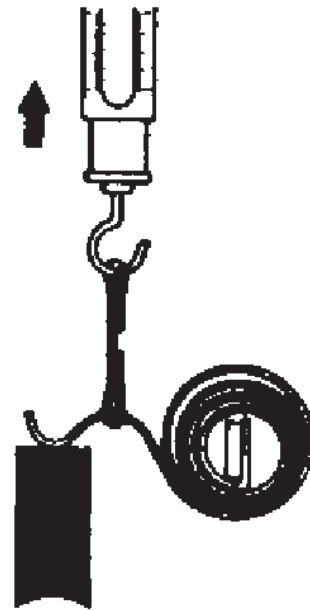

Figure 10-18
2. Using a scale check the brush spring load (**Figure 10-18**). Read the scale when the brush spring just leaves the brush. If the measured mounting load is out of the specified range, replace the brush spring.